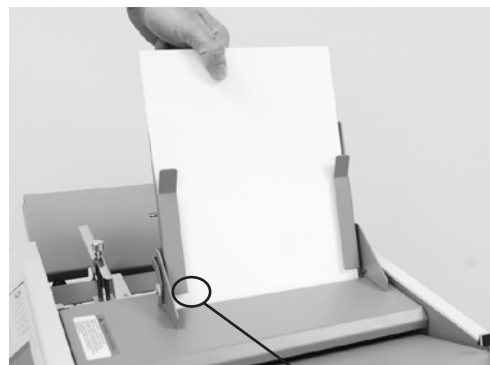

Fig. 9b
2. Slide the pre-collated paper set into the multi-sheet feeder. When feeding stapled sets the documents should be placed with the staple on the operator's side and leading (Fig 9b).